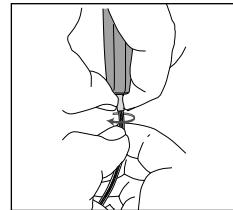

Fig. 7
6. Twist the Teflon outer cable from the Swivel Connector at the bottom of the satellite. Place the Swivel in one hand between your thumb and forefinger and the Teflon outer cable in the other hand between the thumb and forefinger and unscrew (counterclockwise) the outer cable from the Swivel Connector (see Fig. 7). Subtract the inner cable outwards through the Swivel.